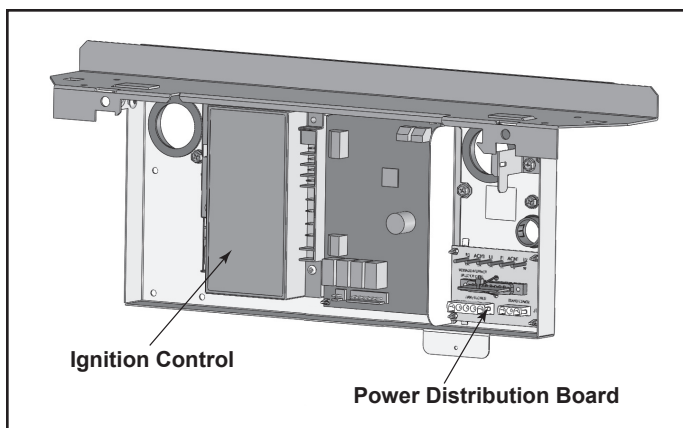

Figure 22. Power Distribution Board
1. Identify the power distribution board on the heater to the right of the ignition control on the raceway (Figure 22).